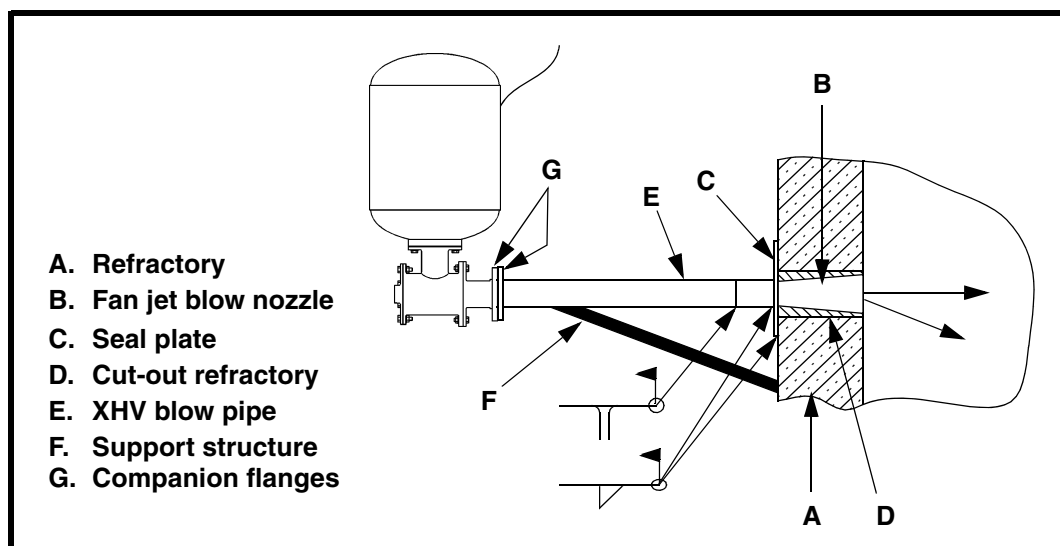

Figure 9. Installing Mounting Plate (High-Temperature Applications)
- (1) Cut a 15-in. (381 mm) by 6-in. (152 mm) hole in skin and refractory (A, Figure 9) (if present).
- (2) If using high-temperature blow pipe, field weld onto fan jet blow nozzle.
- (4) Install 1/4-in. (6 mm) thick by 17-in. (432 mm) long by 8-in. (203 mm) wide seal plate (C, Figure 9) over fan jet blow nozzle opening.
- (5) Field weld seal plate to vessel skin.
- (6) Field weld fan jet blow nozzle to seal plate.
- (7) Pack new refractory into hole that you cut out (D) in step 3.b(1) to seal around fan jet blow nozzle.
- (8) Field weld XHV blow pipe to high-temperature blow pipe (if using) or fan jet blow nozzle.
- (9) Go to step 3.d.
- (1) Cut a 5-in. (127 mm) round hole in skin and refractory (A, Figure 9) (if present).
- (3) Install 1/4-in. (6 mm) thick by 8-in. (203 mm) long by 8-in. (203 mm) wide seal plate (C, Figure 9) over blow pipe opening in **one** of the following ways:
- (4) Field weld seal plate to vessel skin.
- (5) Field weld blow pipe to seal plate.
- 1. Thread (and weld, if desired) one companion flange (G, Figure 9) to XHV blow pipe and other companion flange to XHV discharge weldment.